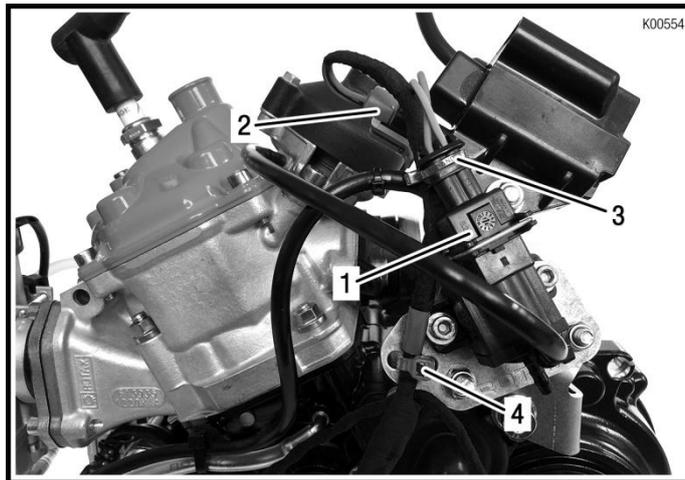

Fig. 18
- ➔ Connect solenoid valve (pos. 1) and ignition coil (pos. 2). Attach both connectors (signed green) (pos. 3) to the two components. See Fig. 18.
- ➔ Fasten cables with cable ties (pos. 4) on the mounting plate.